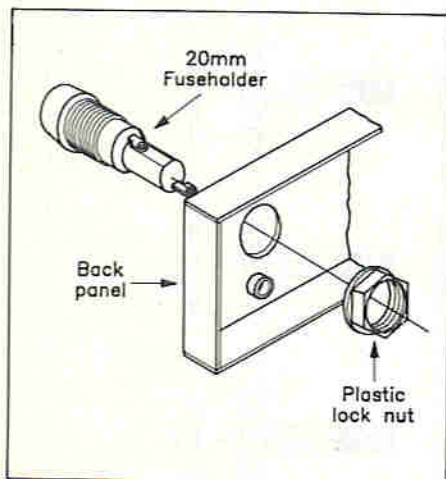
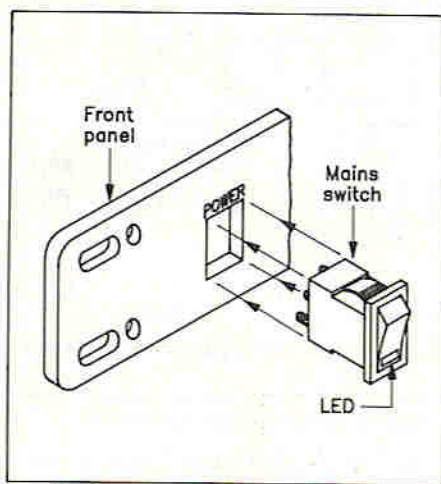
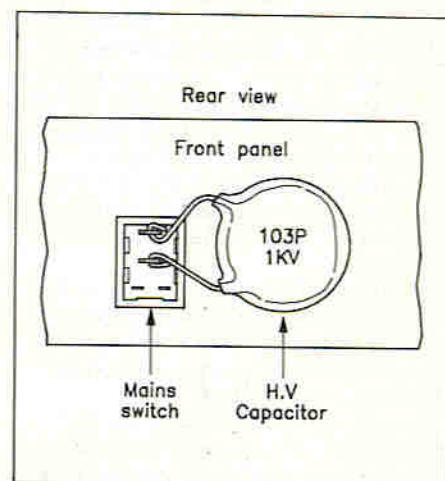

Figure 13a. Fuse mounting.
Figure 13b. Switch mounting.
Figure 13c. Mounting capacitor on switch.
Fit a 20mm fuse holder into the back panel, shown in Figure 13a, and insert the mains power (on/off) switch into the rectangular slot in the front panel with the LED lens toward the bottom edge, as shown in Figure 13b. Identify the high voltage 0.01 μ F (103) disc capacitor and referring to Figure 13c, connect it to the mains switch terminals. Position the capacitor body as close to the switch body as possible, to keep the exposed lead length at a minimum – better still, slide a short length of sleeving or wire insulation over the disc leads first – and solder in place. The remaining two, smaller, terminals on the switch are for low voltage LED connections detailed later on.